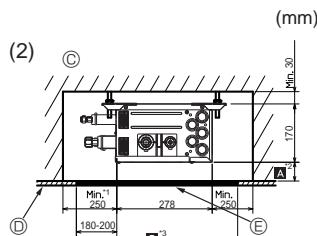
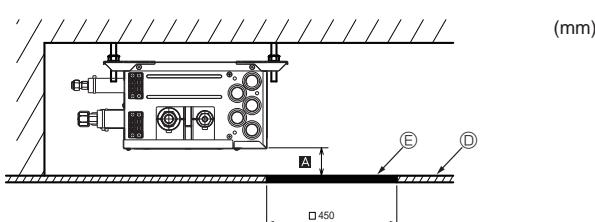

Fig. 4-7
Fig. 4-8
- (2) Side View (Fig. 4-7, Fig. 4-8)
In the case of “□ 450 mm”, prepare a maintenance hole at a PCB side (as it is shown in Fig. 4-8), and “Min. 300 mm” is needed as distance Ⓒ.